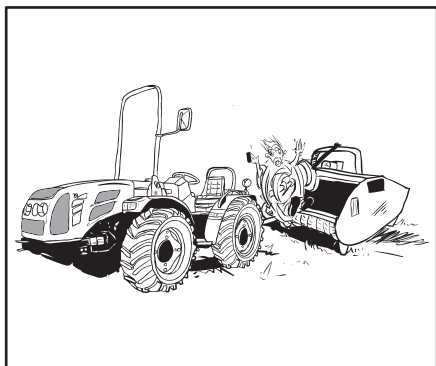

Fig. 2.19
- Make sure that the power take-off (110) guard is in position and that the shaft's cap (111) is on when the power take-off is not used.
- Before connecting, disconnecting, cleaning or adjusting towed implements from the power take-off, turn off the engine, remove the key and make sure that the power take-off's shaft is locked in place (Fig. 2.19).